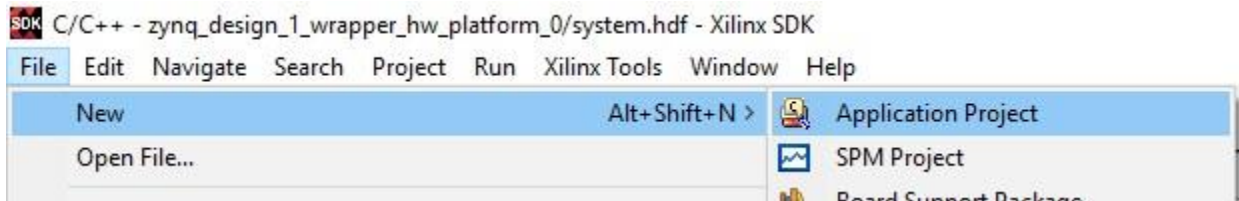

Figure 24: New Application Project.
3. Select **File** → **New** → **Application Project** (Figure 24).